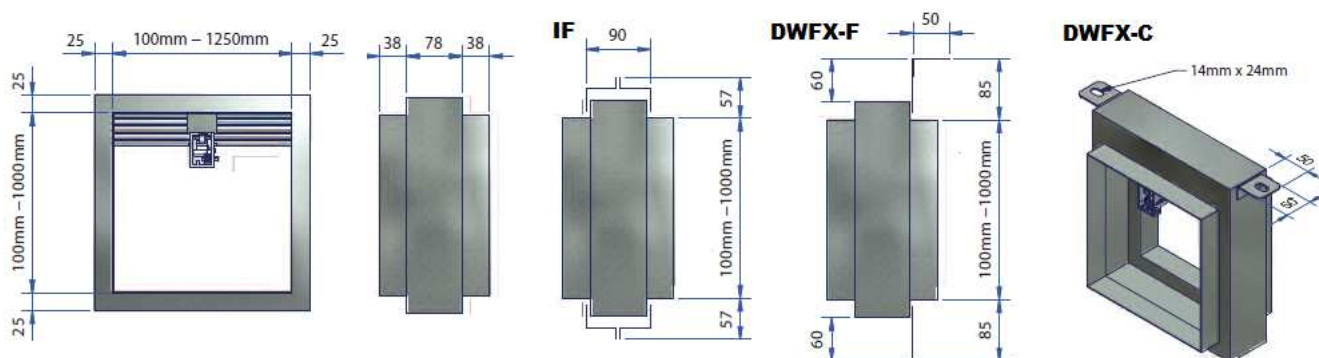

Figure 1. Series 101 with the curtain partially in the airstream
- Series 101 (fig. 1) – from 100 x 100 to 1,250 x 1,000 mm